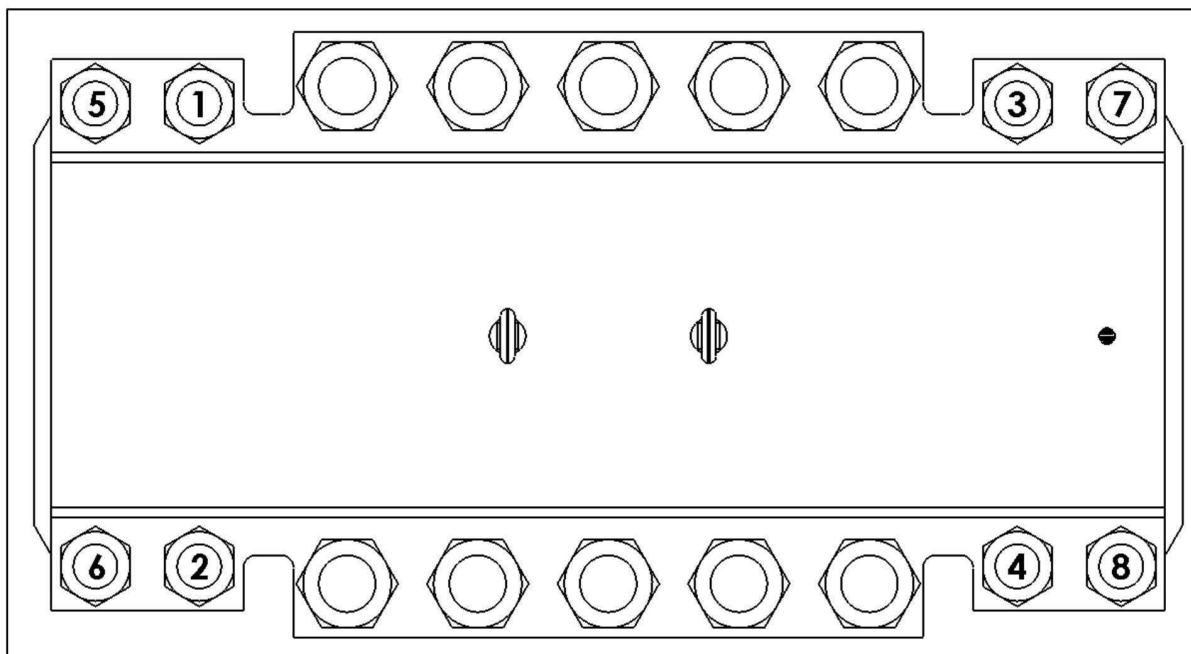

Figure 15
12. Torque the studs and nuts of the clamping sections uniformly, as indicated by the **Torque Values for Clamping Section** in the *PLIDCO Clamping Element Torque Chart* located on page 20. Note that the sidebars in the sealing section are gapped approximately 1/8 inch (3.2 mm) or less when the PLIDCO Hot Tapping+Saddle is fully tightened. The gap between the side bars in the clamping section is typically greater than the sealing section and is dependent on pipe size. The sequence for torquing the studs should follow the pattern of Figure 15, and must be executed repeatedly as follows: